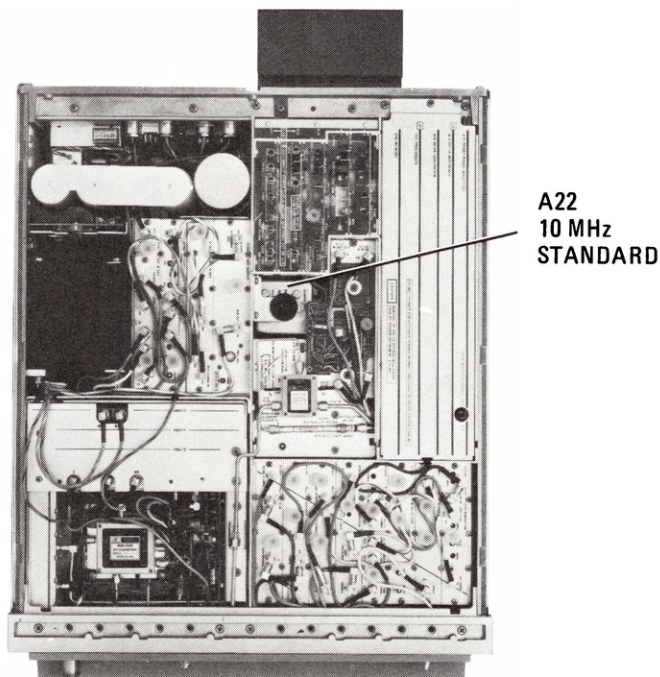

Figure 5-39. Location of 10 MHz Standard Adjustments
9. Adjust A22 COARSE frequency adjust for minimum sideways movement of the displayed signal. Adjust A22 FINE frequency adjust for minimum sideways movement of displayed signal. No sideways movement indicates that frequency standard and internal time base frequency are the same. Refer to Figure 5-39 for location of A22 10 MHz Standard.